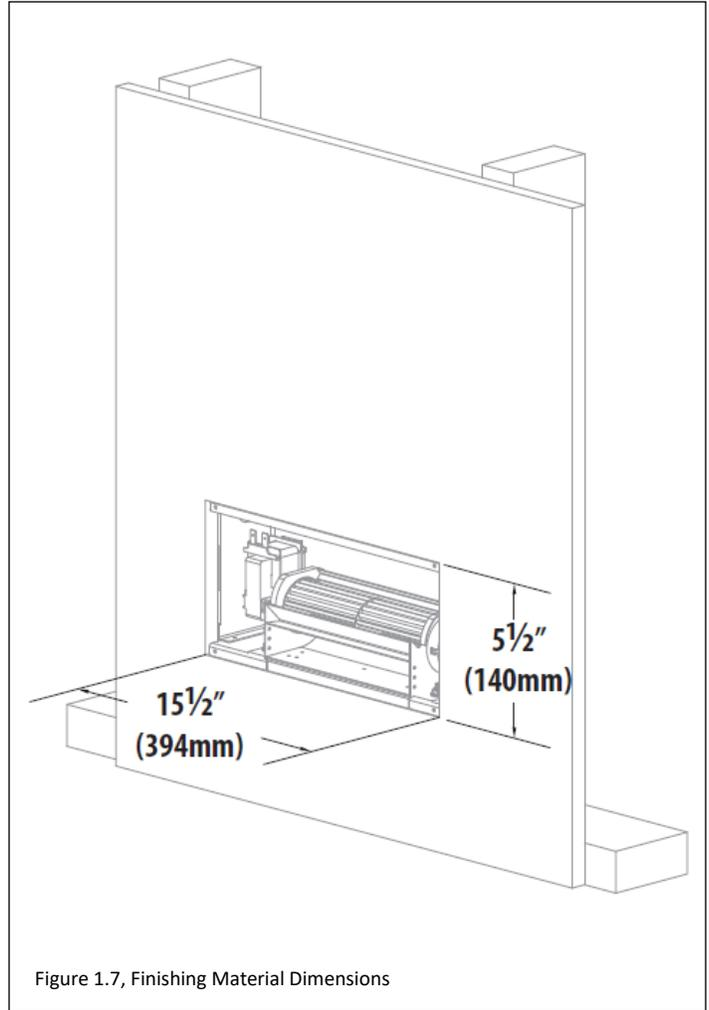

Figure 1.7, Finishing Material Dimensions
- **Figure 1.7** (on the following page) shows finishing clearances.